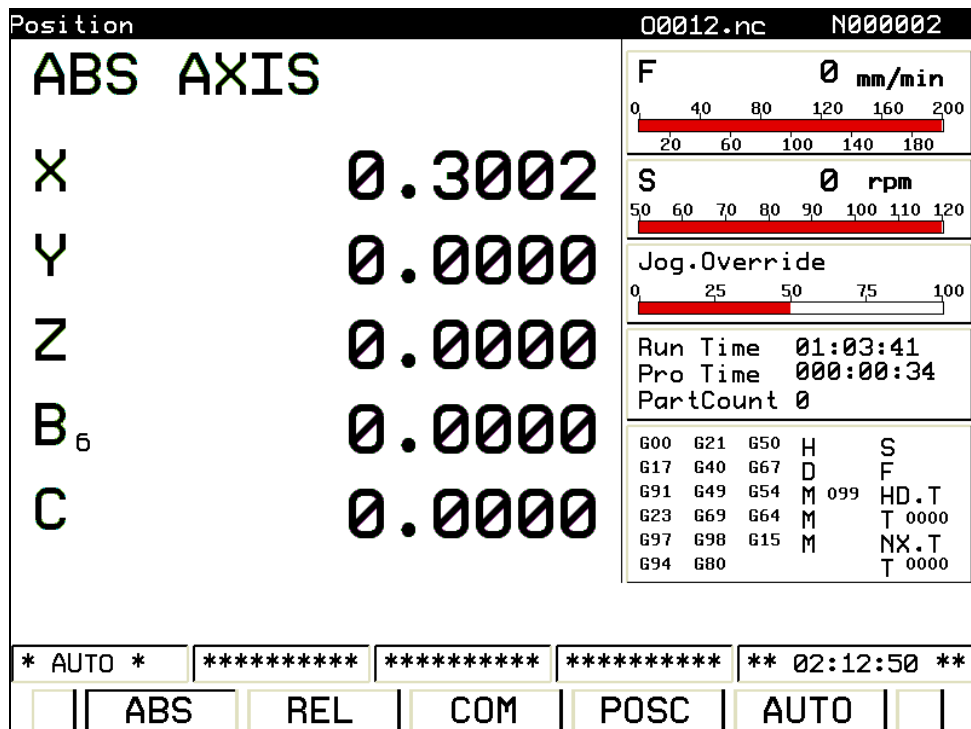

Fig.3-1 Absolute coordinate
- 1) Absolute POS.: Press **【ABS】** key to display current tool position on current coordinate system. It is called “absolute coordinate” hereafter (see fig. 3-1)
Fig.3-1, figure on the left are absolute value on coordinate system. The first progress on the right is federate (F), which can be adjusted by feed override button. The progress of the following S and rapid override are also adjusted by override button with different override values.